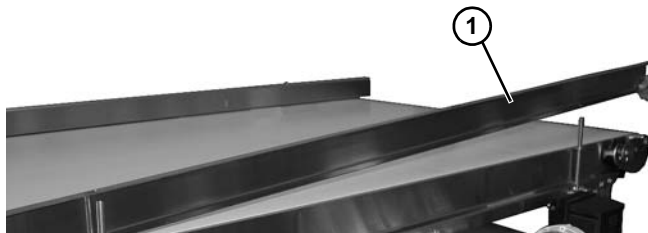

Figure 43
1. Remove guides (Figure 43, item 1) when required.